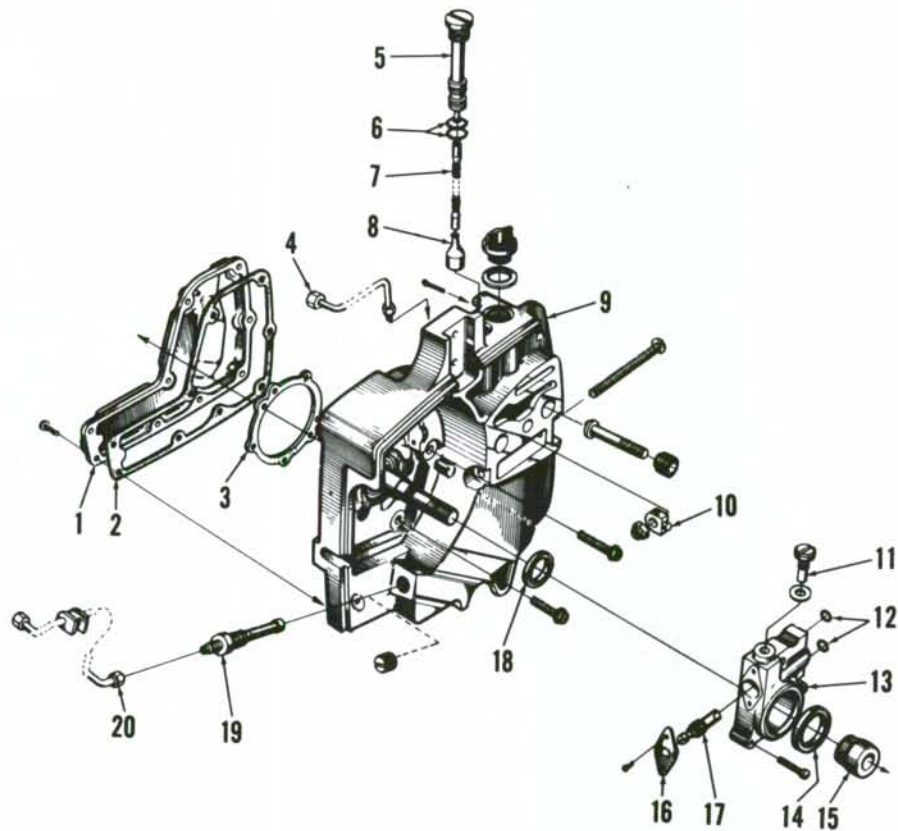

Fig. HL43—Exploded view of automatic chain oil pump on models so equipped.
**AUTOMATIC CHAIN OILER PUMP.** Refer to Fig. HL43 for exploded view of typical automatic oiler pump installation, and to Fig. HL44 for schematic view showing pump operation.
The automatic oiler pump pump is accessible after removing the clutch assembly from crankshaft and disconnecting oil lines. Pump plunger (17-Fig. HL43) and body (13) are available as a complete assembly only which includes flange (16), cam screw (11), gasket, "O" rings (12), sealing felt (14) and flange retaining screws; however, all parts except plunger and body are available separately.